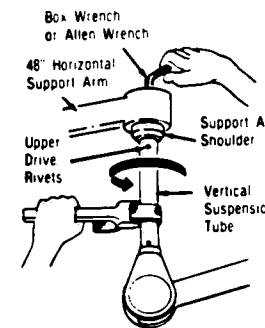

Figure 3-9. UPPER DRIVE RIVET INSPECTION.
- Vertical Suspension Tube Rivets (Upper and Lower) (See Figures 3-9 and 3-10)